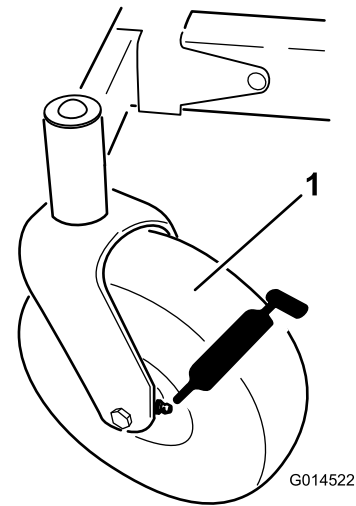

Figure 28
3. Clean the grease fittings (Figure 28) with a rag. Make sure to scrape any paint off of the front of the fitting(s).
4. Connect a grease gun to each fitting (Figure 28). Pump grease into the fittings until grease begins to ooze out of the bearings.